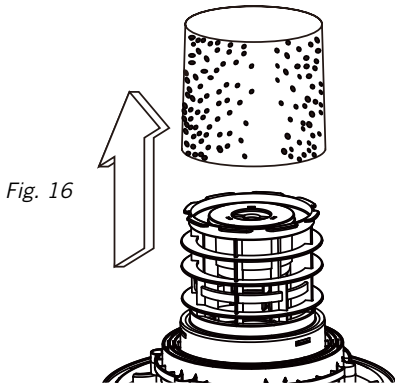

Fig. 16
25. To remove the foam wet filter, place the removed power head in an upside down position, and carefully remove the foam wet filter 19. Fig. 16.